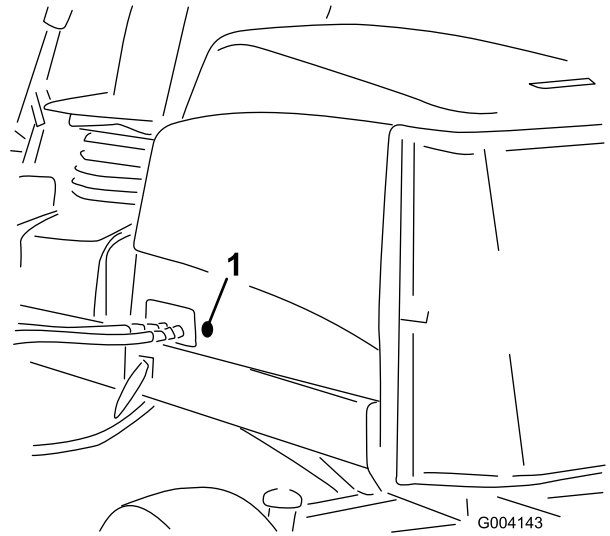

Figure 5
2. Remove the rubber grommet from the hole in the left side of the hood (Figure 5).